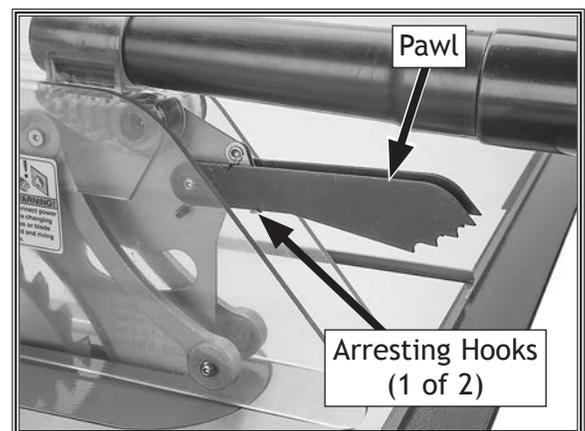

Figure 54. Pawls disabled.
2. Rotate one or both arresting hooks downward, then place pawls on each of the hooks (see **Figure 54**).